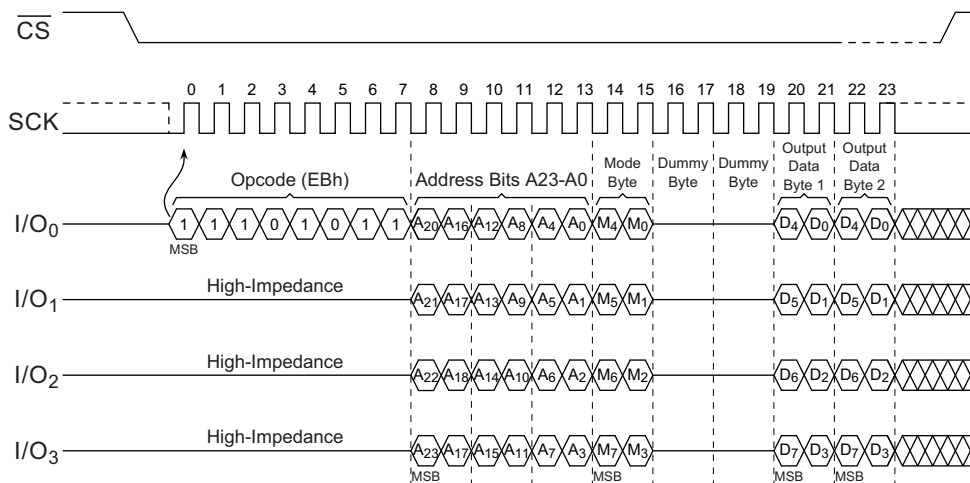

Figure 23. Fast Read Quad I/O Command (Initial command or previous M7-0 ≠ Axh, SPI mode)
The Fast Read Quad I/O command can further reduce command overhead through setting the Mode bits (M7-0) with following the input Address bits (A23-0), as shown in Figure 23. The upper nibble of the Mode (M7-4) controls the length of the next Fast Read Quad I/O command through the inclusion or exclusion of the first byte command code. The lower nibble bits of the Mode (M3-0) are don't care (X). However, the IO pins must be high-impedance before the falling edge of the first data out clock.